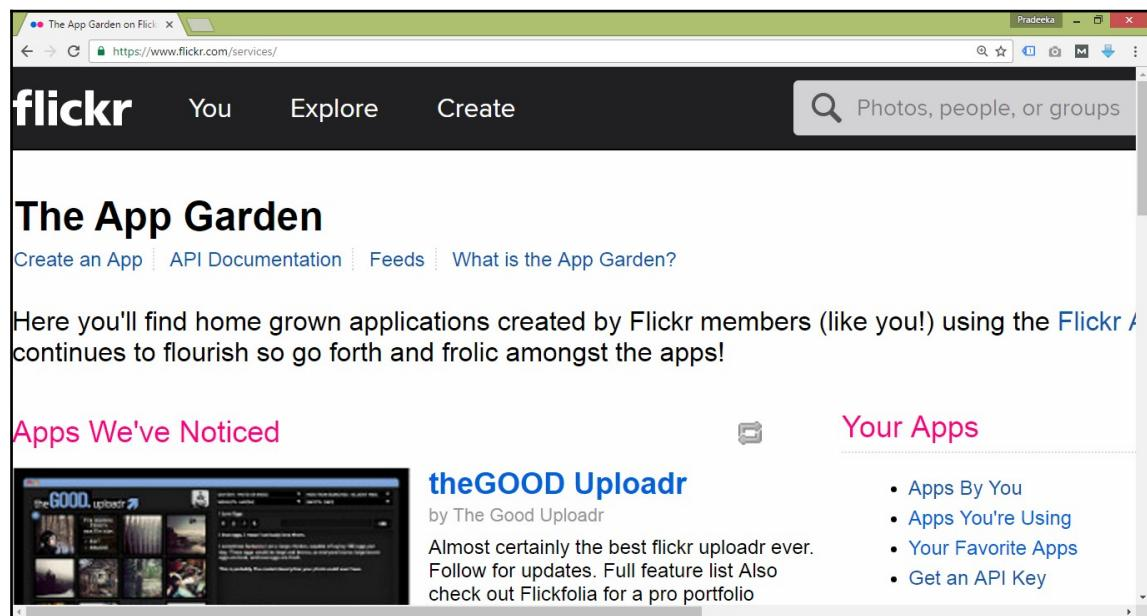

Figure 3-10: Create an app
2. Click on the **Create an App** link (Figure 3-10):